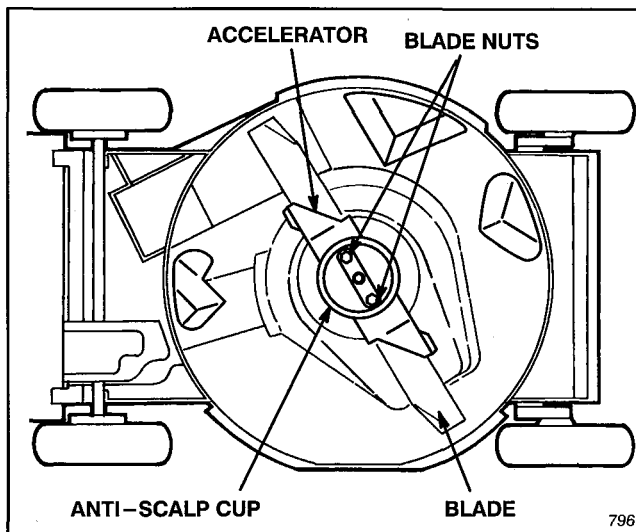

Figure 24
3. Tip mower on its left side (Fig. 24). Avoid rotating blade as starting problems may result.
5. REMOVING BLADE—Grasp end of blade using a rag or thickly padded glove. Remove (2) blade nuts, anti-scalp cup, accelerator, and blade (Fig. 24).